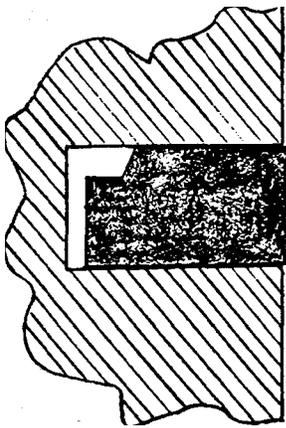
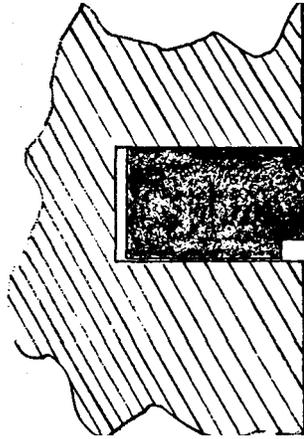

Fig. 1
Fig. 2
1. Compression Rings Upside Down - Will tend to scrape oil up into the combustion chamber instead of down into the crankcase. Rings with an inside groove counterbored should be installed with the groove to the top of the piston (see Fig. 1). Rings having an outside groove should be installed with the groove toward the bottom of the piston (see Fig. 2).